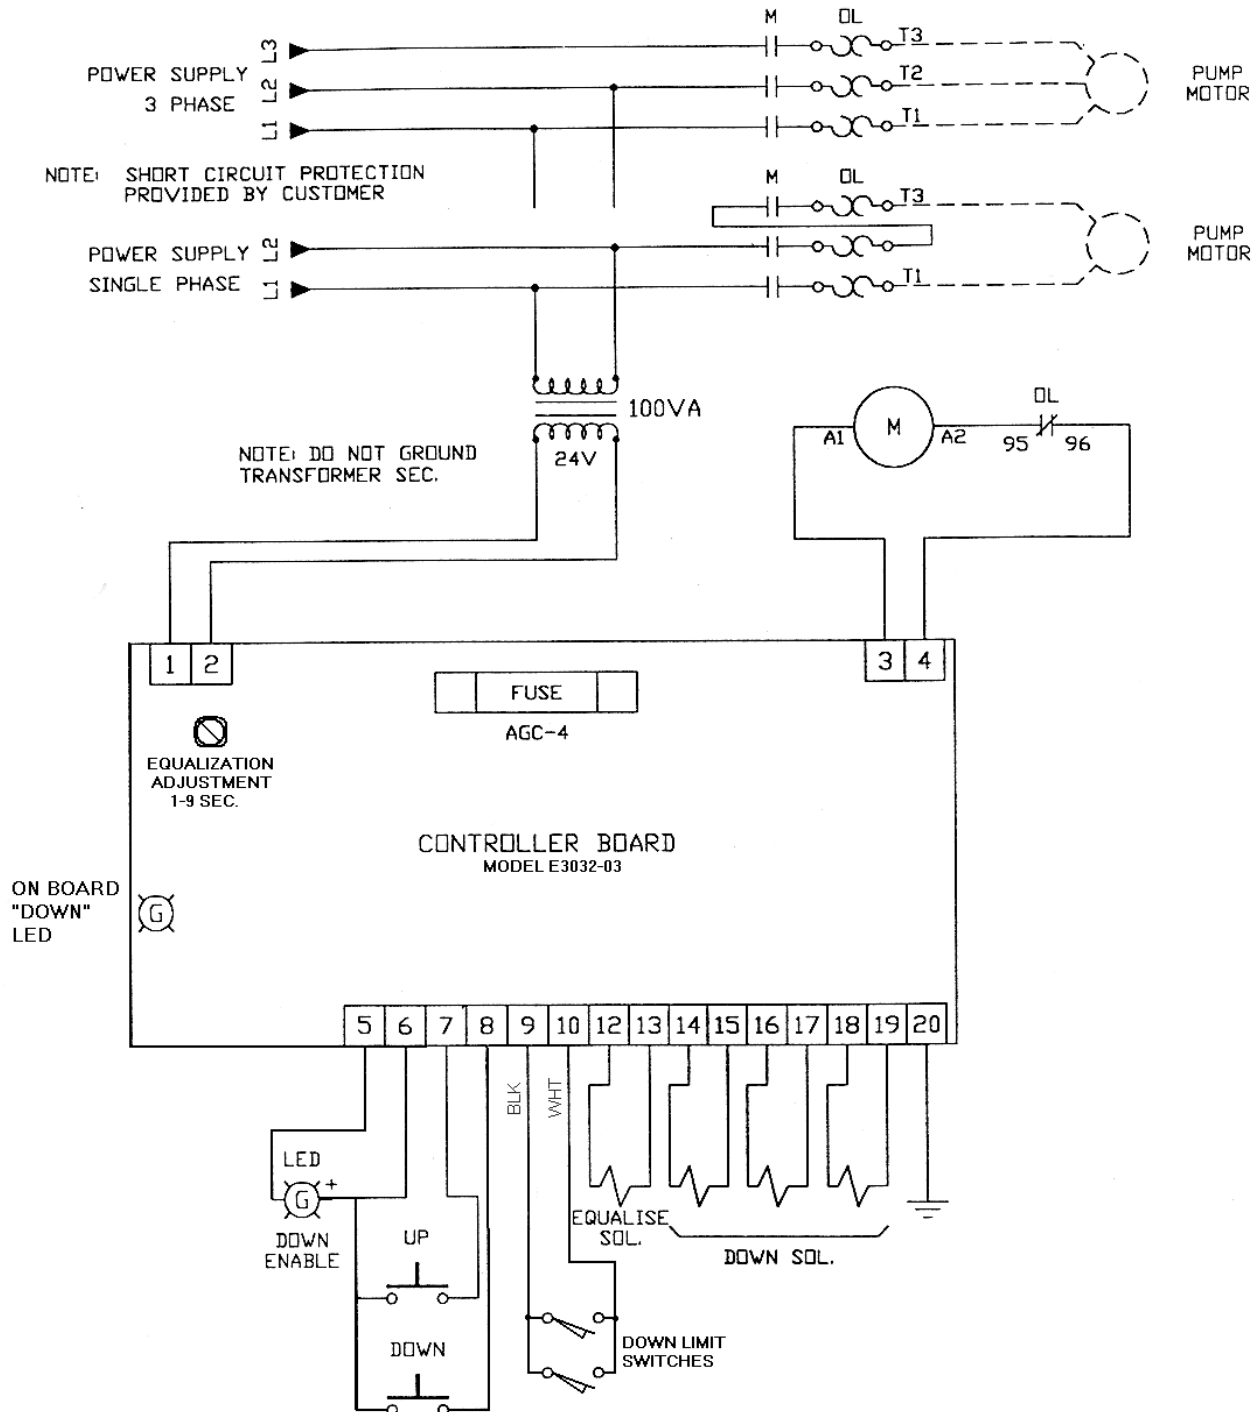

Figure 4 - Electrical Schematic; 220 Volt, 1Ph.
Please refer to Figure 4, the electrical diagram. Note: All electrical connections have been made and customer power supply can be connected using the 12" cable extending from the back of the console.
1. Once the main electrical power supply has been connected, turn the equalization adjustment fully clockwise. The equalization adjustment is located on the powerpack controller board, see Figure 4.